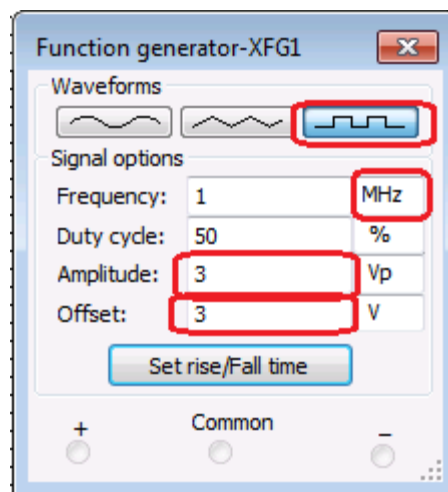

Figure 11. Parameter set panel in the function generator.
- Double-click the function generator to obtain the dialog box (Figure 11). Change waveform shape, frequency unit, amplitude, and offset. Then, close the dialog box.